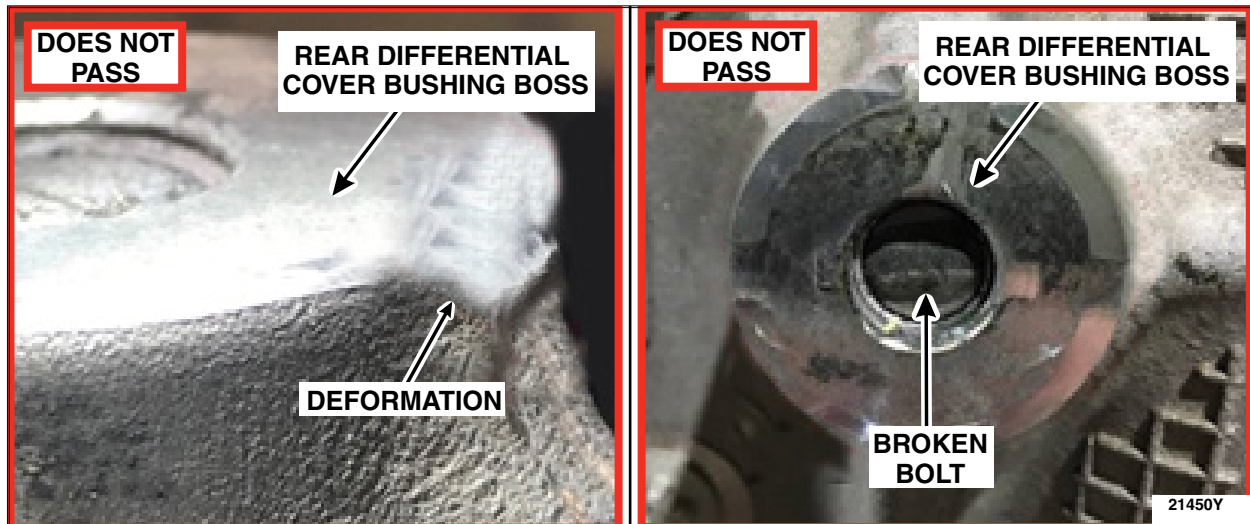

FIGURE 3
7. Visually inspect the rear differential cover bushing boss for damage (broken fastener, scoring, cracks and/or deformation and damaged threads). Is the rear differential cover bushing boss damaged? See Figure 3.